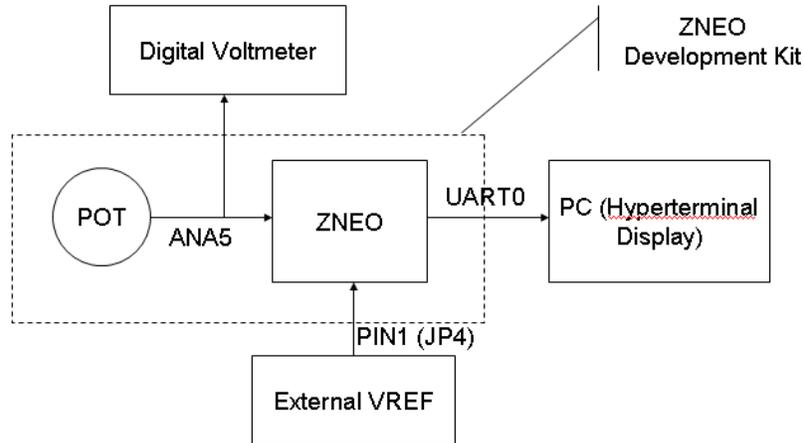

Figure 6. ADC Hardware Setup
Figure 6 illustrates the system setup to demonstrate the ADC peripheral. A potentiometer is used as an analog input for ANA5, a built-in feature of the Z16FMC Series Development Board. A digital voltmeter is used to measure the input voltage to ANA5. A PC running the Hyperterminal emulation program is used to display via the decimal and hexadecimal ADC values via UART0. A power supply for external reference voltage is connected to Pin 1 of the development board's JP4 jumper.
4. Follow the hardware set up in Figure 6.